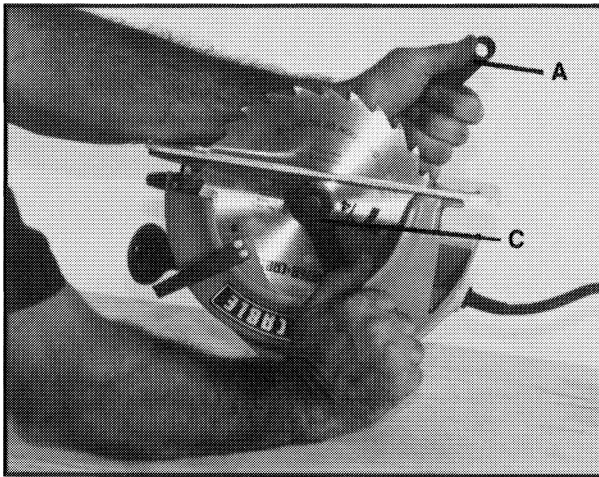

Fig. 3
3. Turn the saw over and make sure the handle rests on a rigid support. See Fig. 3.
4. Retract the blade guard. Insert the jackshaft wrench (A), Fig. 3, between the blade and guard and onto the flats on the jackshaft flange.
5. While holding the jackshaft wrench (A), the blade retaining bolt can be tightened or loosened with the blade bolt wrench (C) as shown in Fig. 3. Turn the blade retaining bolt counterclockwise to loosen and clockwise to tighten. Tighten blade retaining bolt just enough to prevent slippage during normal cutting.